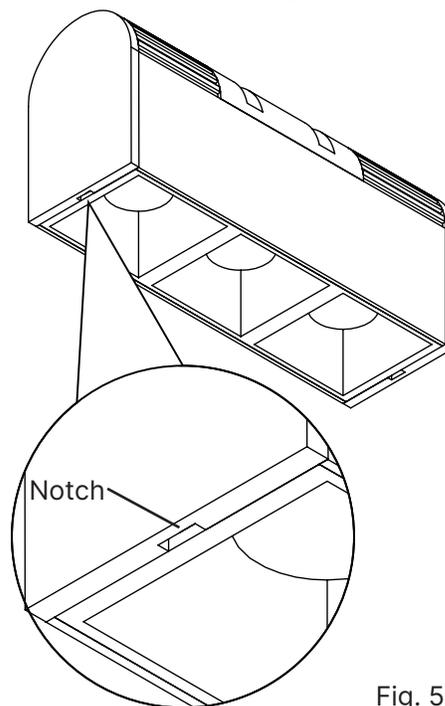

Fig. 5
2. Snap **Trim Subassembly** into **Light Engine**, press up firmly on the bottom of the Trim Subassembly, while pressing down on the top of the Light Engine, until the Trim Subassembly clicks into place (Fig. 5). **Note: Use the Notch on the enclosure to help detach the trim.**